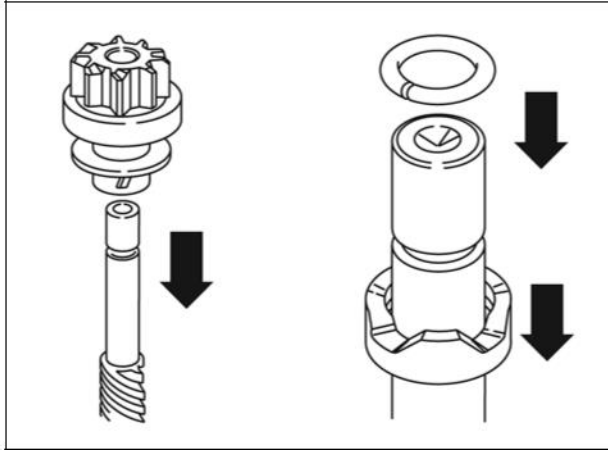

Figure 55
6. Align tab on drive lever with notch in housing (Figure 55).